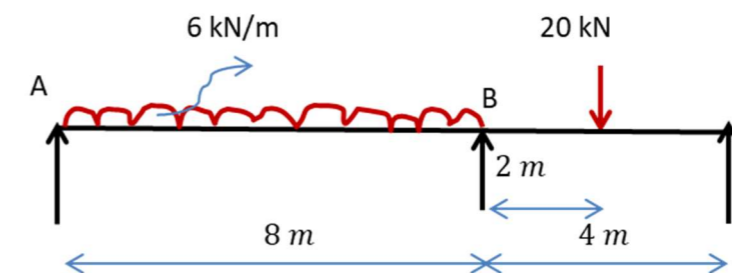

Figure 2
- (b) Draw B.M. and S.F. diagrams for a continuous beam loaded as shown in figure 2. (14) 2 3